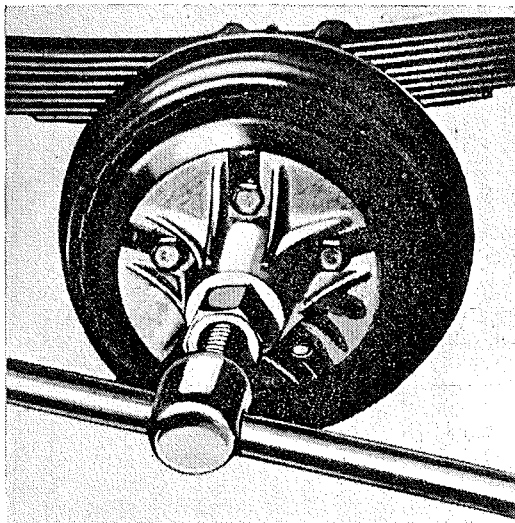

FIG. 136—REAR WHEEL HUB PULLER
- c. Use a Puller, Tool C-319, (Fig. 136), to remove the wheel hub.